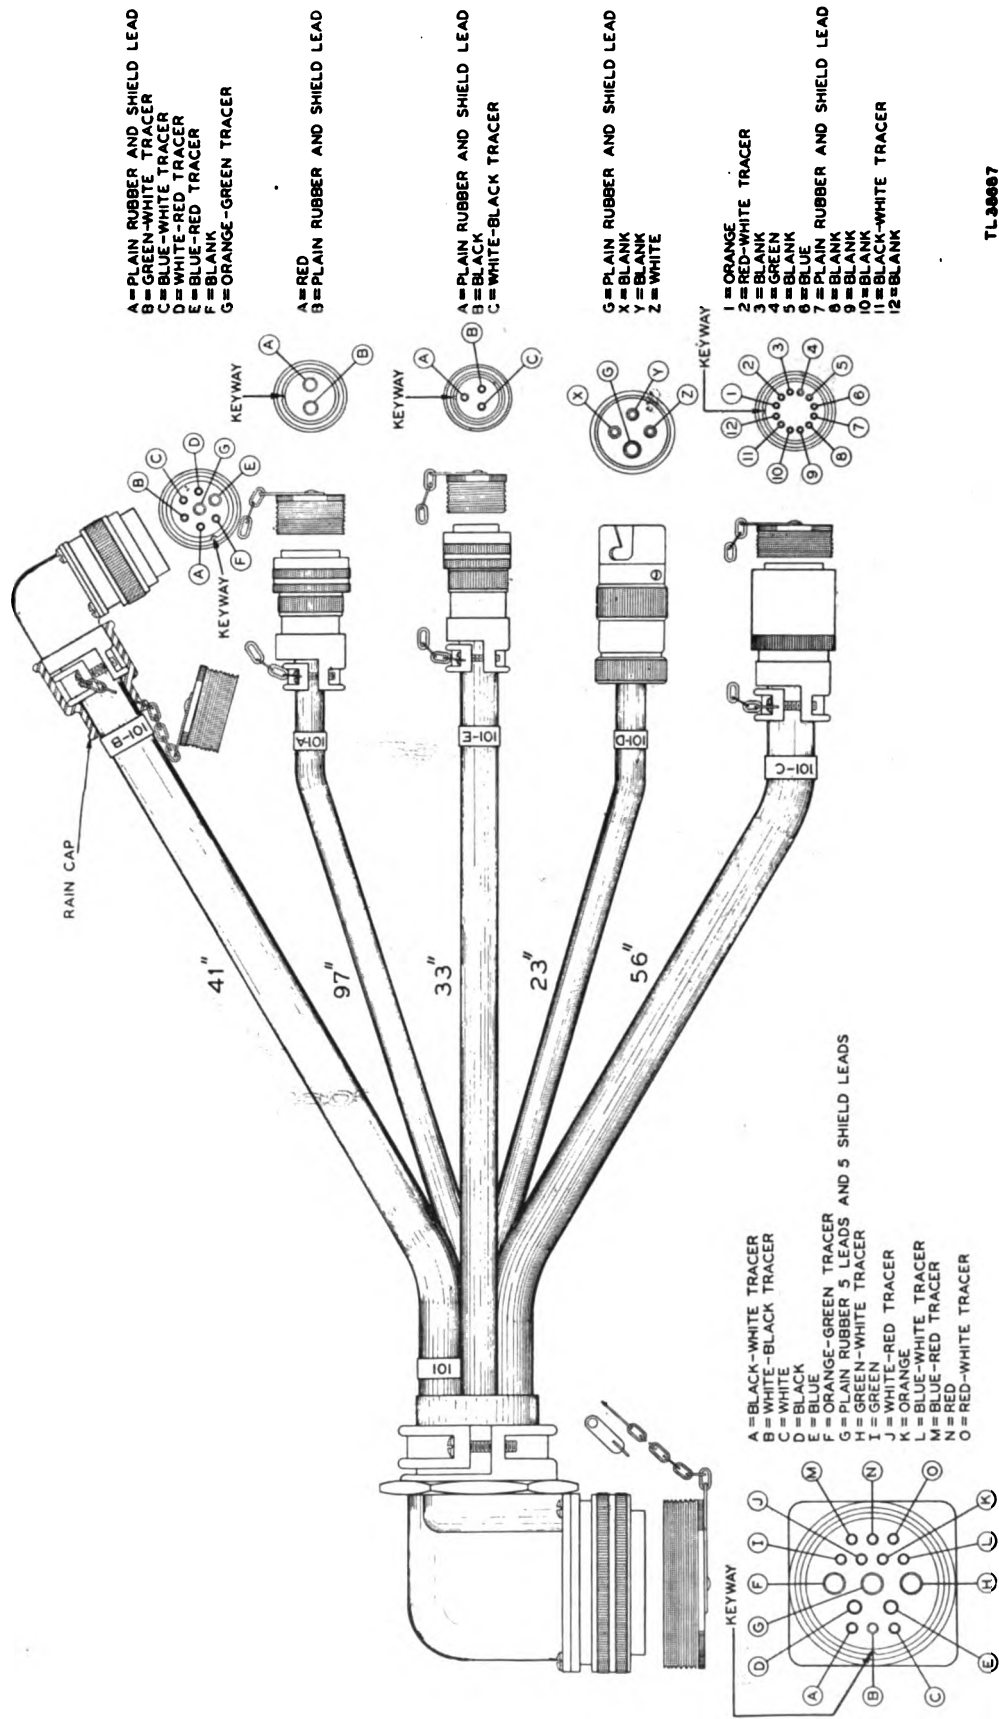

Figure 39. Cable assembly 101 (Cord CD-720).
(4) Cable 101 is a multiple type cable consisting of five individual cables terminating in one common connector. Complete details of the construction, wiring arrangements, and assemblies of the connectors are shown in figure 39.